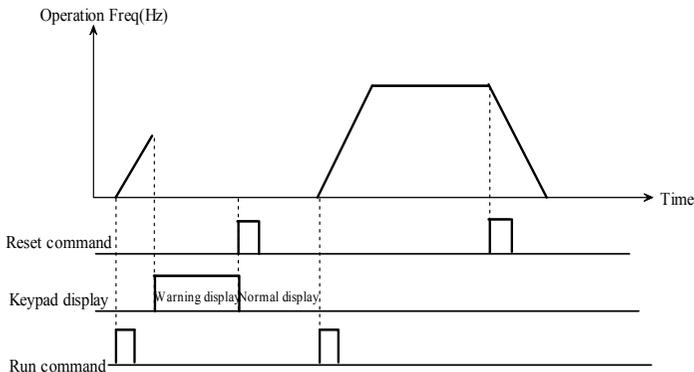

Figure. 5-3-1 Terminal reset
- ◆ In fault state, the inverter can be reset by pressing “STOP/RESET” on keypad or by terminal which is defined as RST function. In running state, enabling this terminal function can stop the inverter according to selected stop mode. RST function is rising-edge-triggered, so it must be operated as “disabled-enabled-disabled”, shown in Figure. 5-3-1.